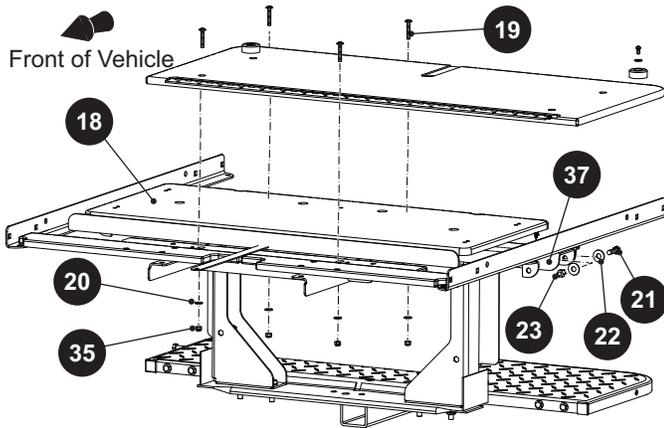

Fig. 4 Seat Bottom Removal
8. Remove the four lock nuts (35), flat washers (20), and bolts (19) to remove the seat bottom (18) (Ref. Fig. 4).
10. Remove bolts (21), flat washers (22), and lock nuts (23) that secure the crossmember to the vehicle frame.) (Ref. Fig. 4).